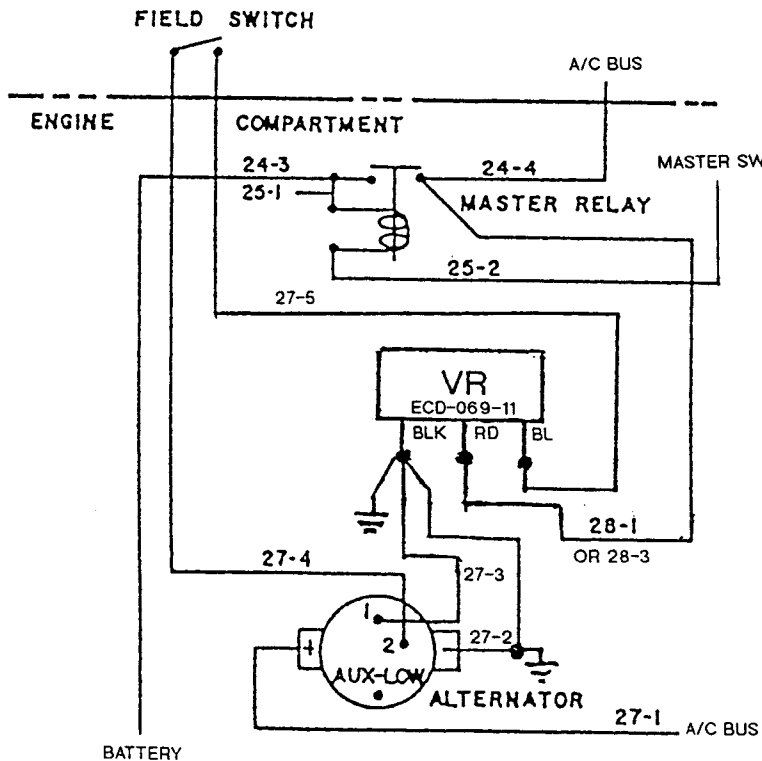

Figure 3. Installation Schematic
6.4) Owners and operators wishing to update their helicopters to a fully transistorized voltage control system can do so by installing an ECD-069-11 controller and modifying the wiring to the schematic on page 4, Figure 3. Note: The failure mode of this system is "0" volts output.